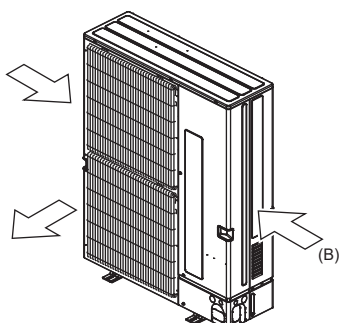

Fig. 2-5
(3) Position the unit so that the air outlet blows perpendicularly to the seasonal wind direction, if possible. (Fig. 2-5)